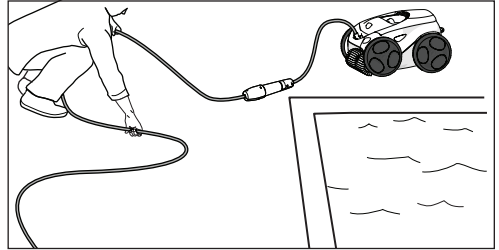

Figure 16. Untangle the Floating cable
2. Starting at the cleaner head, remove all coils and tangles from the cable. Lay the cable in the sun to loosen any tangling memory. See Figure 16.